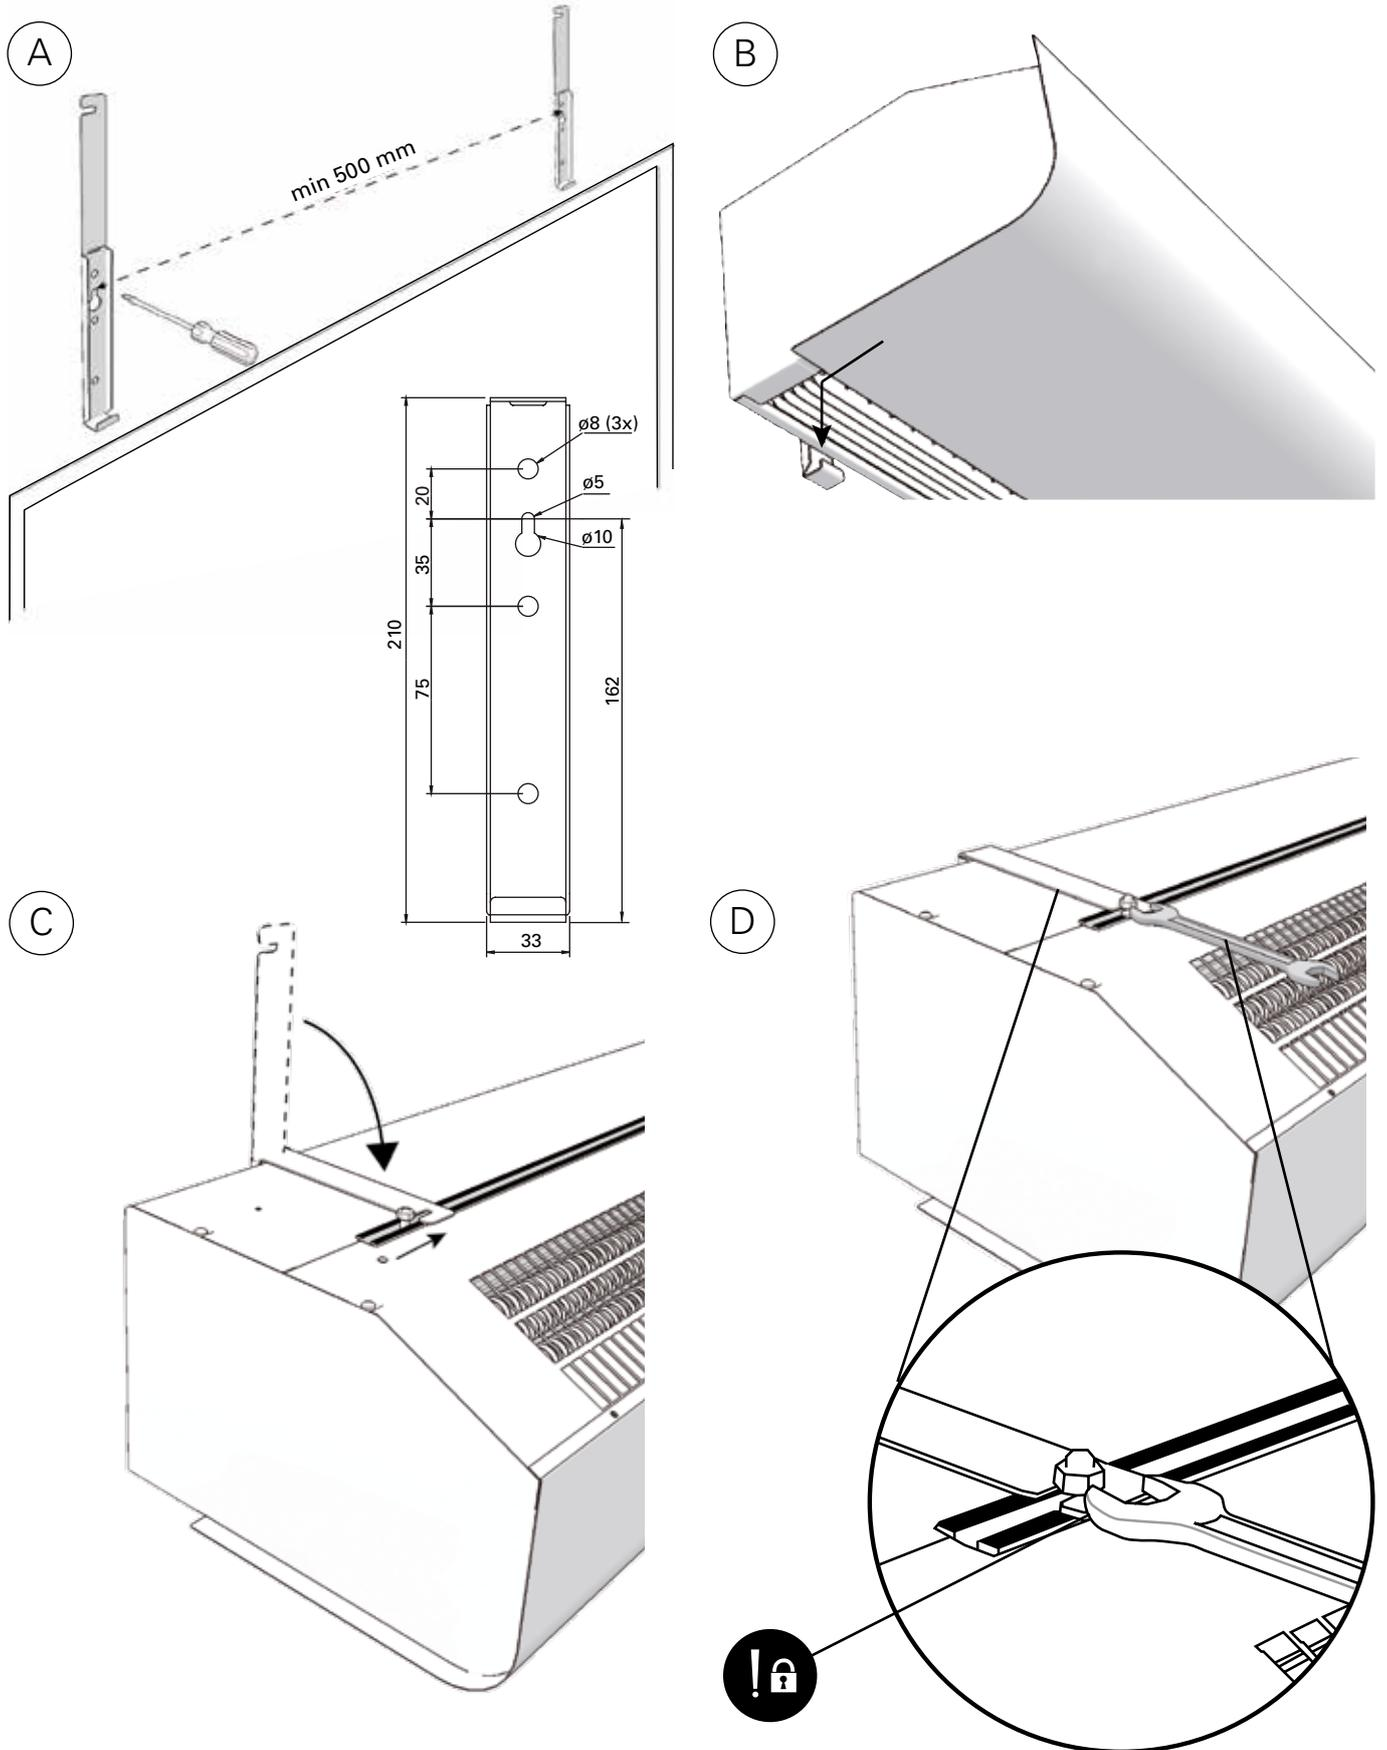

Fig. 4: Mounting with wall brackets
*Mounting with wall brackets (fig. 4)*